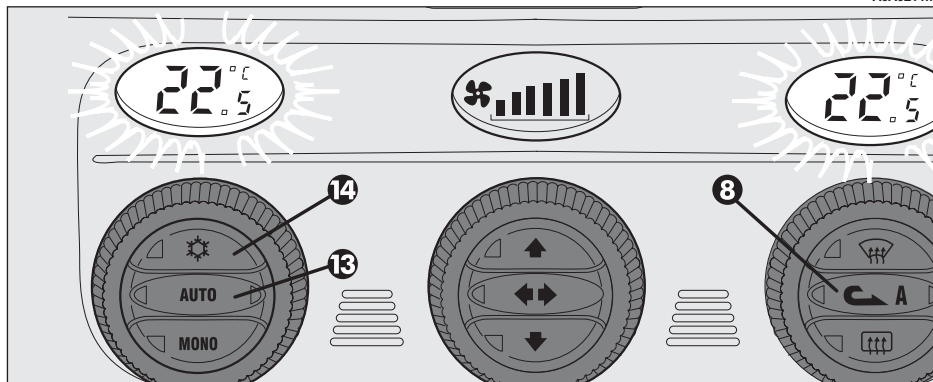

fig. 86
With the climate control compressor off, it is not possible to admit air to the passenger compartment with a temperature below the outside temperature; in this case, the value flashes on the display concerning the temperature that cannot be reached and the left led on button (13) **AUTO** - fig. 86) goes off.